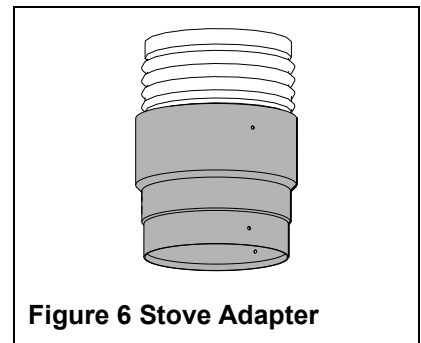

Figure 6 Stove Adapter
2. If using a flexible liner, a stove adapter must be attached to the bottom of the liner prior connecting it to the appliance flue collar (Figure 6).